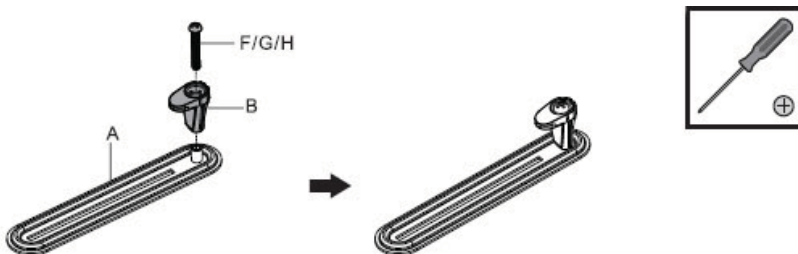

Figure 1
1. Select **Bolt (F/G/H)** according to the depth of your monitor and use it to install **Support (B)** onto **Arm (A)** using a Phillips screwdriver. Do not fully tighten until instructed to do so, see Figure 1.